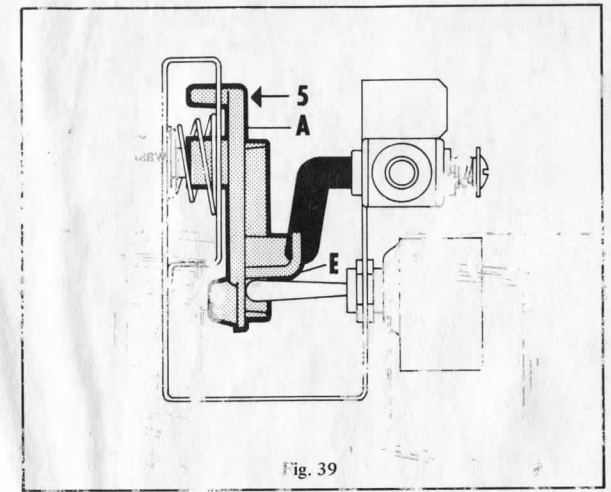

Fig. 39
It is of utmost importance for correct function of the gas/electric control that the gas cock lever is correctly engaged in the slot "E" (Fig. 39) on the plastic driving disc "A" of the gas/electric control mechanism.
5. Release the driving disc which is then pulled inwards by spring action, whereby the lever of the gas cock snaps into its slot "E" on the driving disc "A" (Fig. 39)